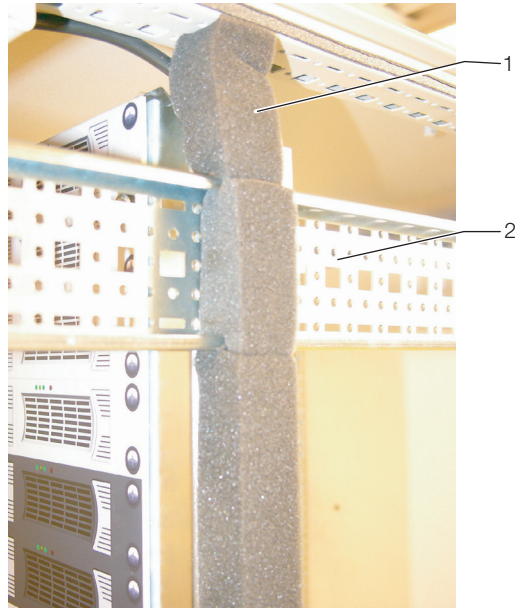

Fig. 1: Foam strip on a server rack support
- Fasten the broader (Model No. SK 3301.370/3301.320) of the two foam strips from the Liquid Cooling Package accessories from outside onto one of the front supports of the server rack (cf. Fig. 1). Make sure to install this strip on the side of the server enclosure onto which the Liquid Cooling Package is to be bayed.
- Fasten the smaller (Model No. SK 3301.380/3301.390) of the two foam strips from the Liquid Cooling Package accessories from outside onto one of the front supports of the server rack (cf. Fig. 1). Make sure to install this strip on the side of the server enclosure which will again be sealed by a side panel.